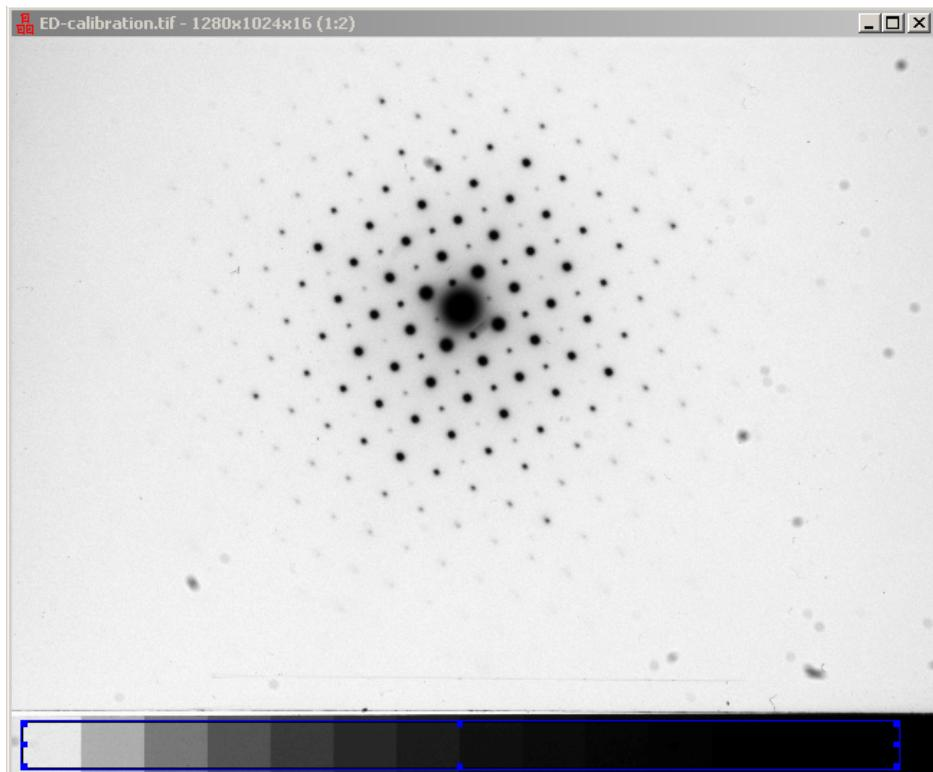

Figure 7-7: ED Pattern with calibration strip with stepwedges of standard optical densities.
Correction for non-linearity of a CCD camera is made by including in the input image a calibration strip of known optical densities (the marked area in Fig. 7-7). By comparing the known optical densities of the calibration strip with the observed response of the camera, the camera can be calibrated to give accurate intensity values.
- The first step of the procedure is to create a variable sized area in the window, covering the calibration strip. A small blue square appears when you click on the icon or choose **Free Size Area** from the **Area** menu. The square is then elongated by pulling on the edges and positioned over the calibration strip by moving it with the mouse. The electron diffraction pattern now has the appearance as shown in Fig. 7-7.